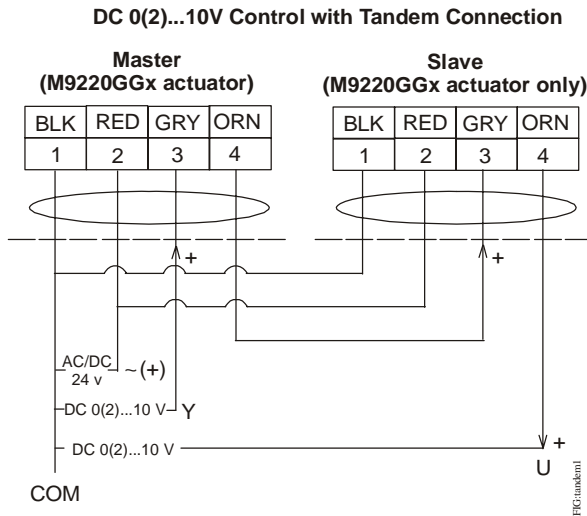
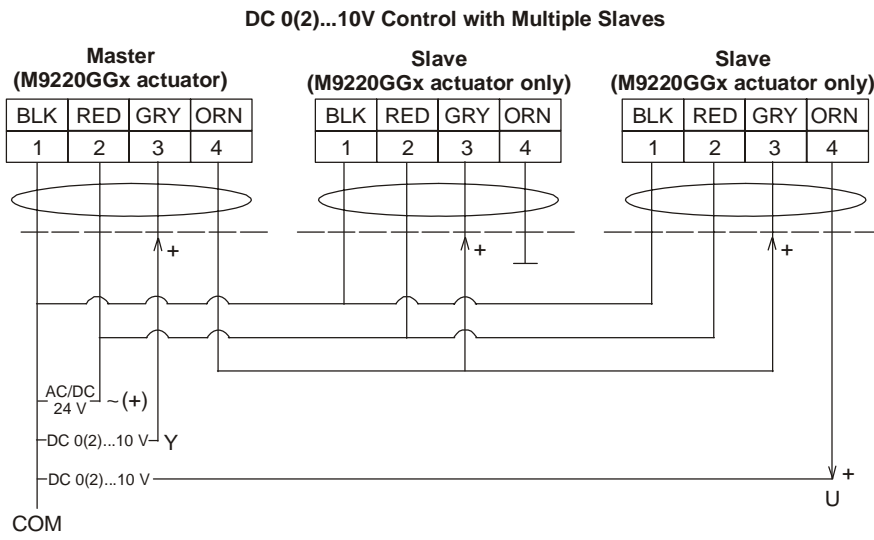

Figure 13: Tandem Connection
Figure 15: Tandem Connection with Three Actuators
The tandem configuration (Figure 13 and Figure 15) provides twice (with two actuators) or triple (with three actuators) the running and spring return torque of a single actuator, or 354 lb-in (40 N·m), 531 lb-in (60 N·m). The actuators may be mounted in tandem using the M9000-158 Tandem Mounting Kit. To mount a third actuator, user-configured bracketing is required..
- Two or three M9220-GGx-3 actuators may be operated in tandem on the same shaft. If mounting two actuators, see Figure 13; for three actuators, see Figure 15.